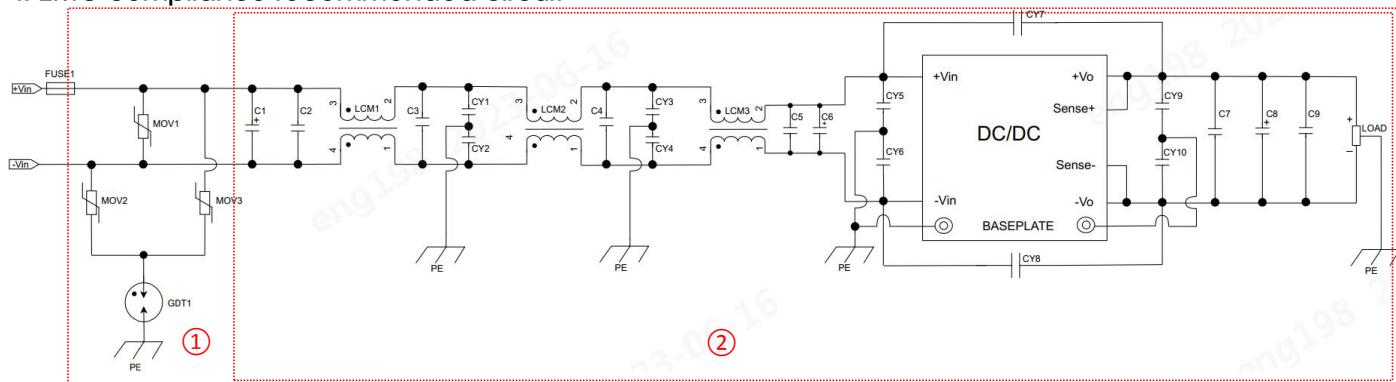

Fig. 8
GJB151B CE102 (see Fig.8② for recommended circuit)